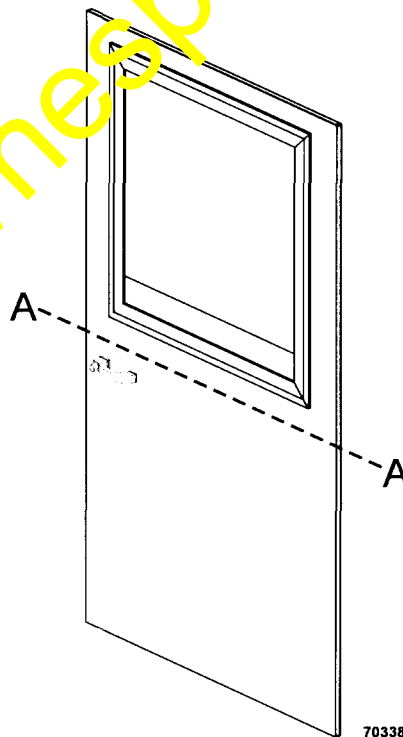

Figure 1. Door Panel Structure
1. Assure that the door structure is relatively flat as shown (Line A-A, Figure 1). To remove the bow from the door, lower the window and apply a smooth, even pulling force from inside the cab until door structure is flat..